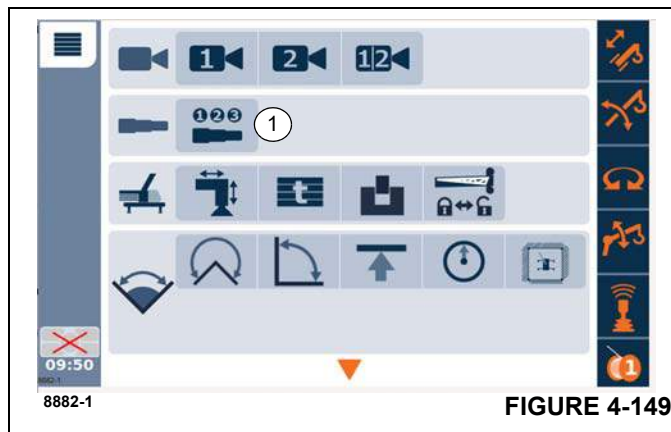

FIGURE 4-149
**NOTE:** Open the Telescoping Semi-Automation Menu (1), (Figure 4-149).